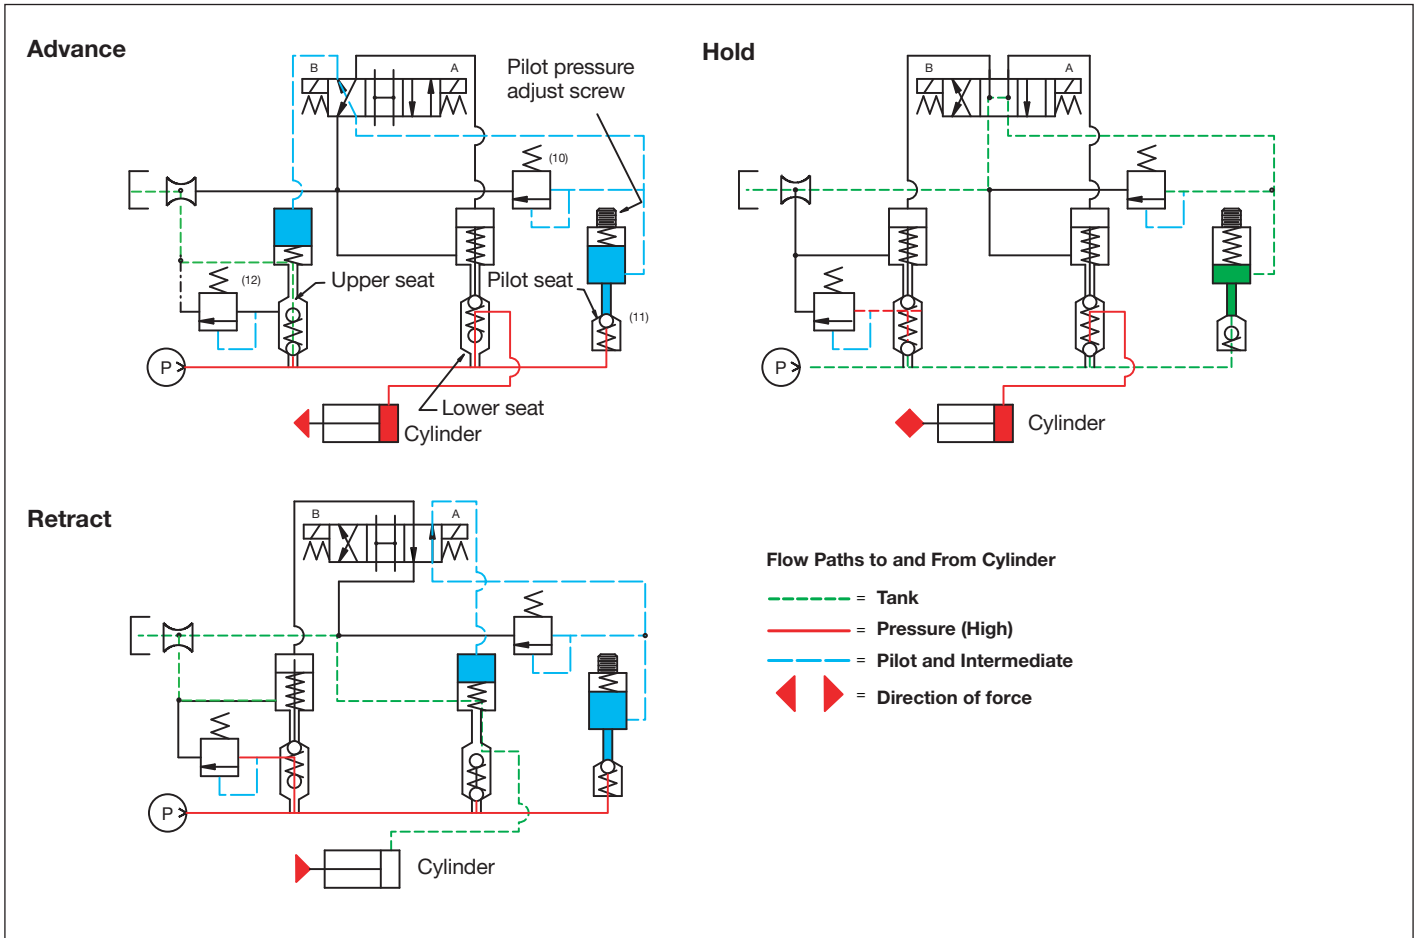

Figure 9, Electrical Diagrams, VE33VAC (For Troubleshooting Purposes Only)
1. To assist in becoming familiar with the function and usage of the valve, please refer to Figures 9 and 10.
4. Inability to obtain any pressure may be the result of damaged connector seals, failed relief valve components (items 9, 14, 15), sticking solenoid spool (item 104), or the pilot pressure setting is too low (less than 500 psi [34 bar]).
7. If the valve malfunction is identical in both directions, check the pilot pressure setting by inserting a 0-5000 psi [0-344 bar] gauge in the port labeled “pilot pressure” on the side of the valve. Advance the valve and check that the pilot pressure is between 1200-1400 psi [82-96 bar] and adjust the pilot pressure adjustment screw (item 35) accordingly to either increase or decrease the pressure setting. If no improvement is noticed, replace the spring (item 37), pilot seat (item 21), and copper gasket (item 20).
8. If the pilot setting cannot be adjusted down, it can indicate the O-ring and backup ring are installed on the wrong side of each other on item 38, or indicates a severe leakage in the pilot seat (item 21) or a broken spring (item 22). Replace parts immediately.
9. If the valve fails to build to maximum pressure, the pilot pressure may be too low. Low pilot pressure may be caused by leakage through the spool valve or a leaking relief ball seat (item 9) in the valve body (item 7), or the pilot setting is too low and needs to be adjusted (see step 7, above).
10. If the valve builds pressure simultaneously in both directions, this may be the result of a broken pin in either one or both of the directional piston assemblies (item 39), and/or the pilot piston (item 38), or the pilot pressure setting (item 35) is too low, or that the pilot spring (item 37) has broken. Either readjust the pilot setting or replace parts immediately.
11. If the valve fails to change direction immediately, this may be due to worn springs (item 19) between the ball directional circuits, or a problem with the directional pistons (item 39), either a broken pin or failed seal. Replace parts immediately.